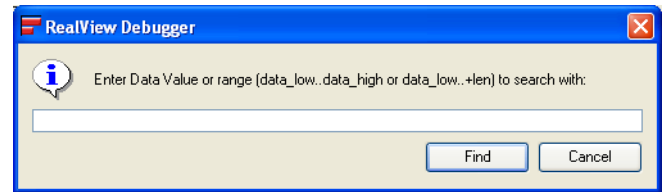

Figure 9-10 Finding a data value match
1. Select **Find Data Value...** from the **Find** menu to display the Prompt dialog box. Figure 9-10 shows an example: